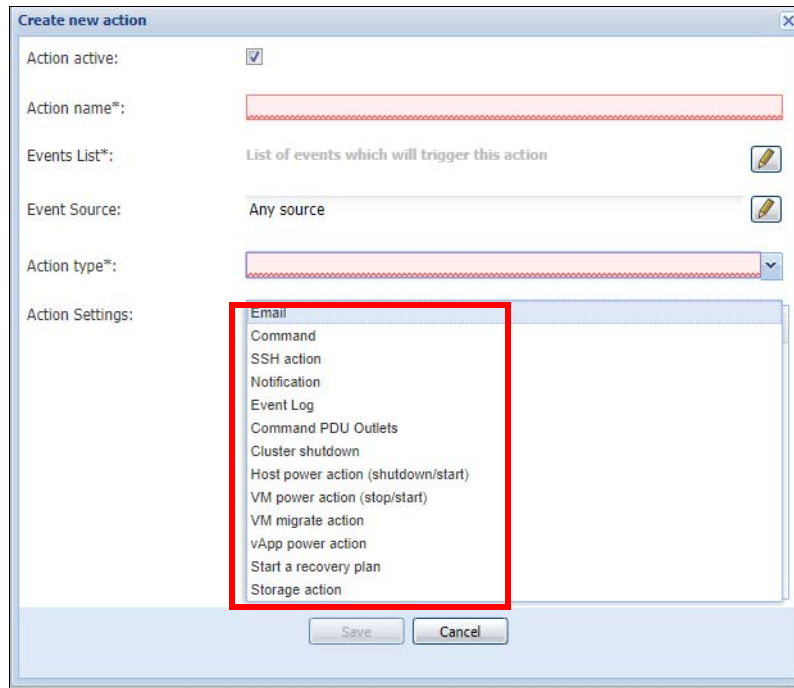

Figure 47 Action type options for a new action
6. Select the Action type from Action Settings field, as shown in Figure 47.